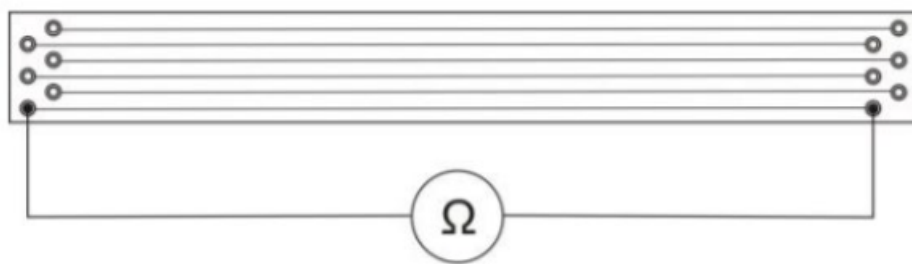

Figure 3: Circuit to be implemented
1. Connect the multimeter to the resistance bridge as shown in Figure 3.